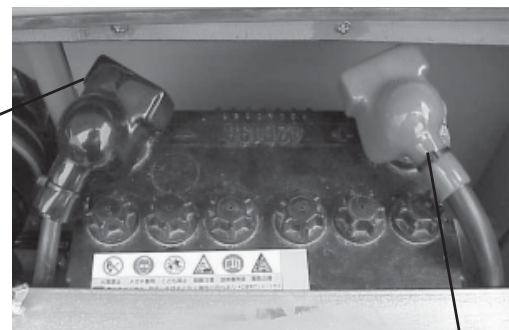

Figure 30. Battery Connection
1. When removing cable, disconnect the ground side (normally negative) first (Figure 30).